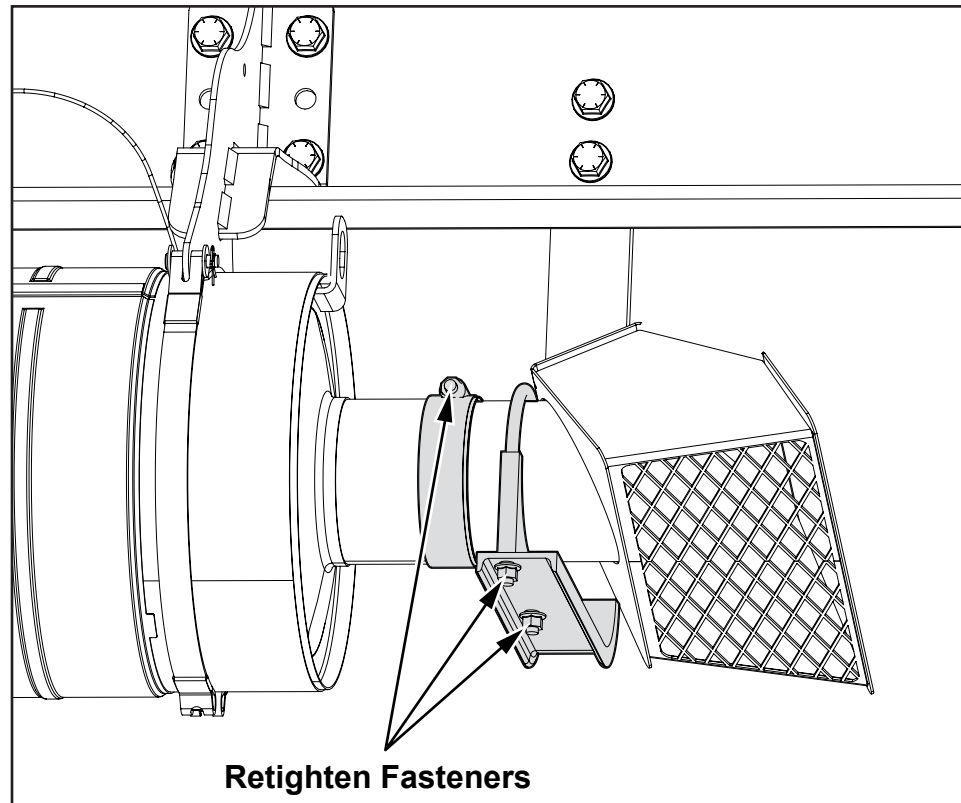

Figure 3.
5. If the diffuser is not oriented properly, loosen the fasteners on the clamps and rotate the diffuser until the correct alignment is obtained. Then, re-tighten the fasteners (see *Figure 3*).